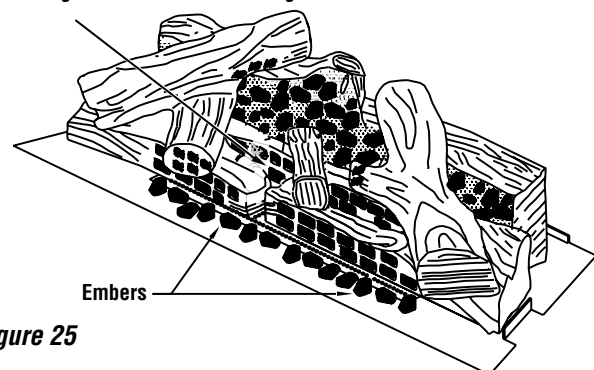

Figure 25
7. **Figure 25** shows the entire log set assembled. The volcanic stone provided may be placed one high in front of the front burner tube using care not to cover all the burner ports. Any extra embers may be placed at the ends of the front log - off the burner. Place small pinches of embers (rockwool) on top of the embers.